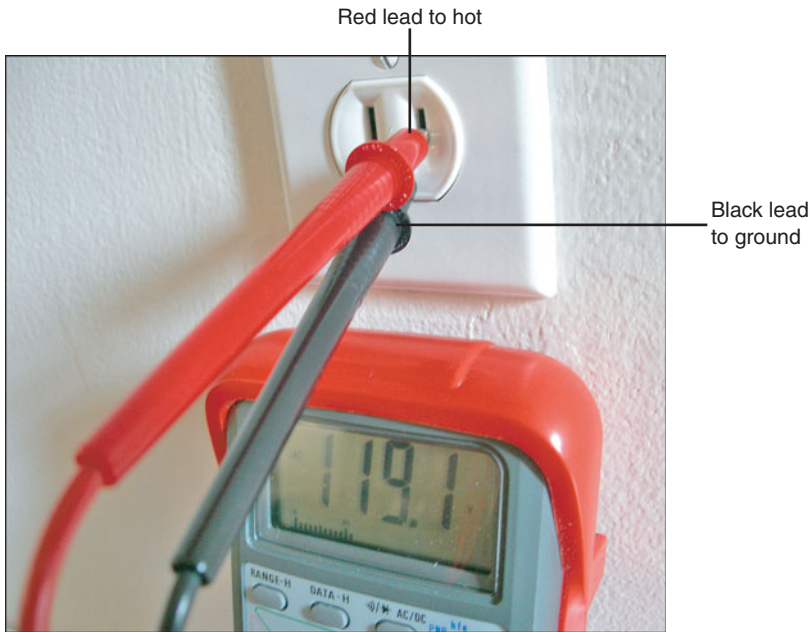

FIGURE 5.2 A receptacle tested with a multimeter
3. Turn on the multimeter to test for volts AC (sometimes labeled as VAC). Hold the leads steady and check for readings. Optimally, the reading will hover around 115 volts or 120 volts depending on where you are in the United States. Watch the readings for a minute or so. Remember the reading or range of readings that display. A common reading is shown in Figure 5.2.